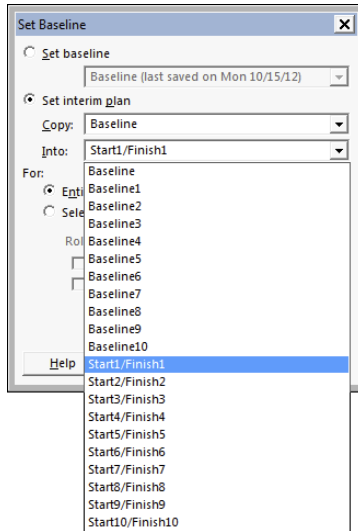

Figure 14-4:
5. From the Into drop-down list box, select the fields in which you want to store the interim plan data, as shown in Figure 14-4.